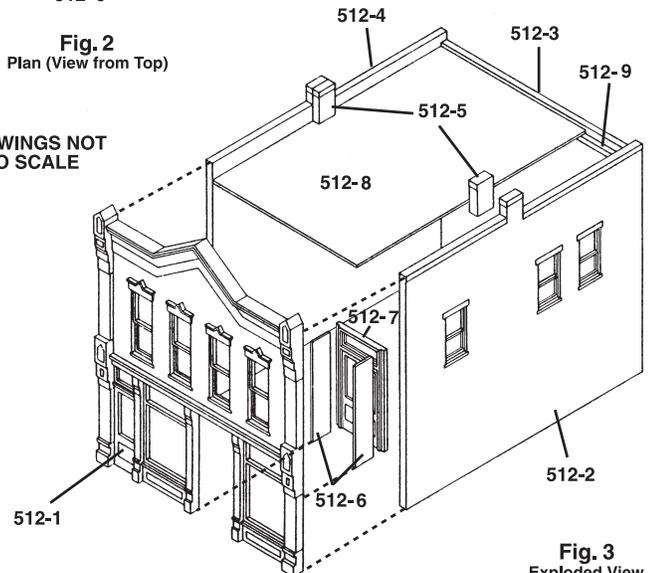

Fig. 3
- Glue Front Door Assembly to back of Entry Wall (512-1) (Fig. 3).
- Install Roof (512-8) through bottom of building and glue to bottom of Chimney Backs (Fig. 3).
- Glue one Roof Support to bottom of Roof and Front Wall and one to bottom of Roof and Rear Wall (Fig. 3).